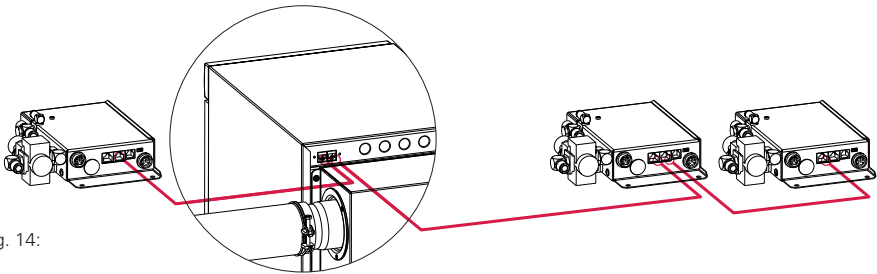

Fig. 14:
- The AP601 port openers must be connected to the suction unit via a data bus (Fig.14).